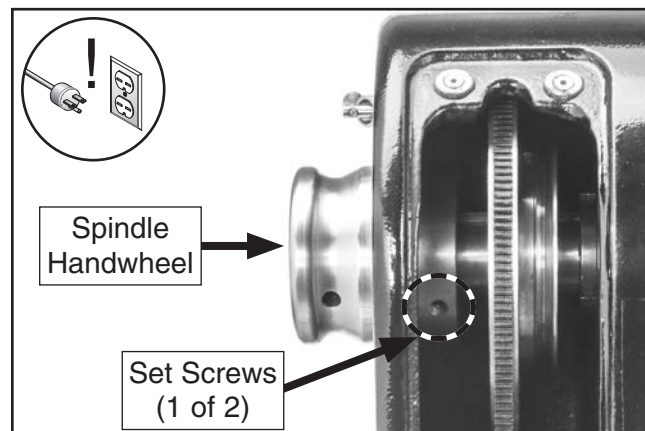

Figure 65. Location of set screws on spindle handwheel.
5. Loosen two M8-1.25 x 20 set screws (see **Figure 65**) that secure handwheel to spindle shaft, then slide handwheel off of shaft.